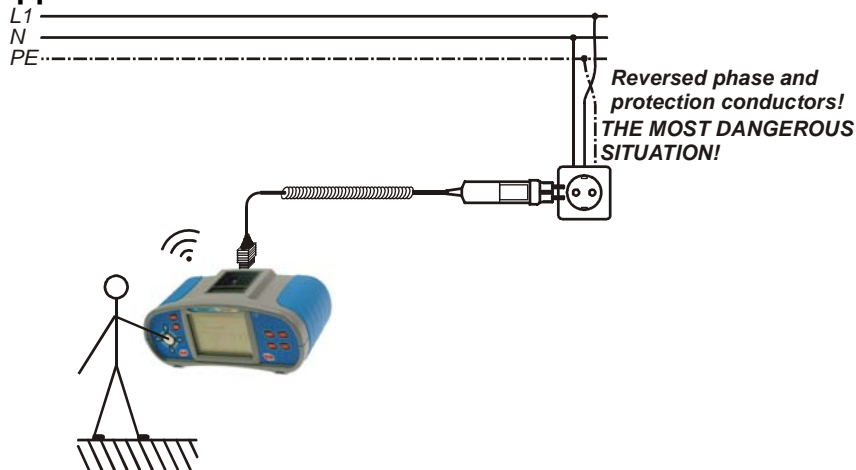

Figure 5.40: Reversed L and PE conductors (application of plug commander)
- ❑ **Connect** test leads to the tested object (see *figures 5.40 and 5.41*).